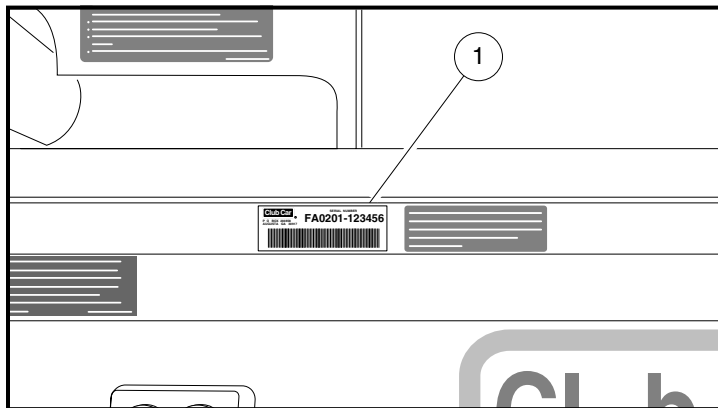

Figure 1 Serial Number Decal
The serial number (1) of the vehicle is printed on a bar code decal mounted on the frame directly above the accelerator pedal (Example: FA0201-123456) (**Figure 1, Page 9**). There is also a second serial number decal mounted on the front body frame behind the center dash panel. The center dash panel must be removed to view this decal.